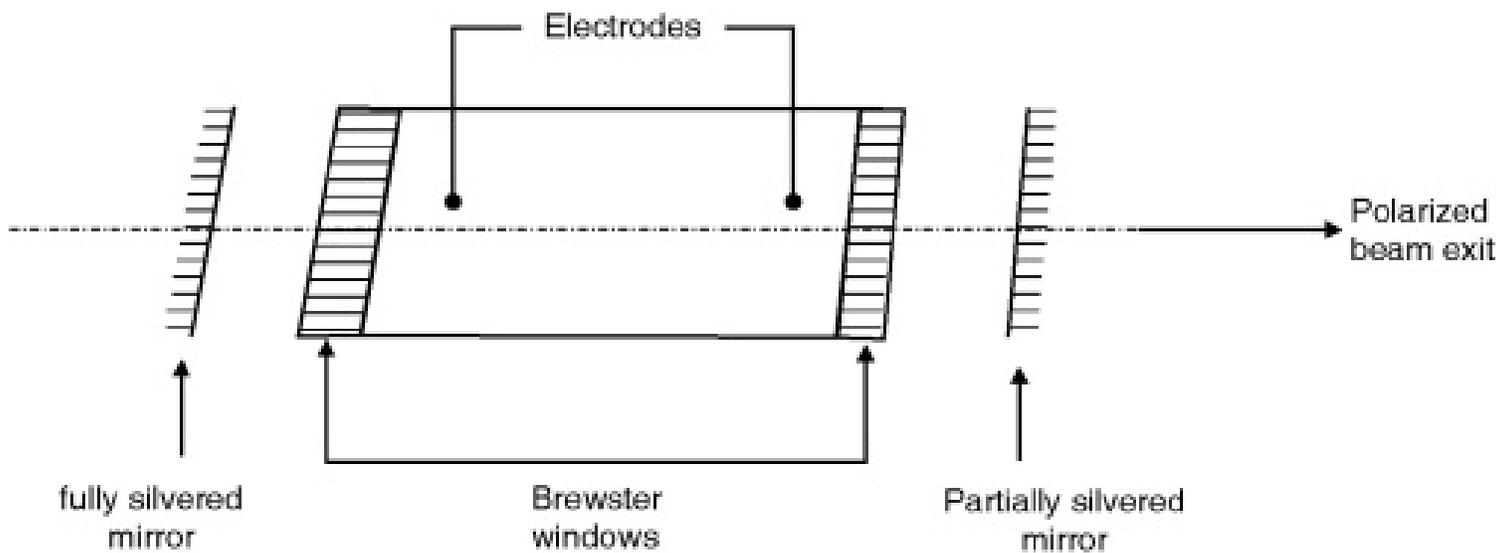

Fig. 4.11.1 : He-Ne laser tube (schematic presentation)
- The He-Ne laser consists of a long and narrow discharge tube which is filled with Helium and Neon in the ratio 10 : 1 with pressure of 1 mm of mercury. Flat glass quartz plates which function as Brewster windows are sealed to the tube at both ends. Two optically plane mirrors are fixed on either side of the tube normal to its axis as shown in Fig. 4.11.1.